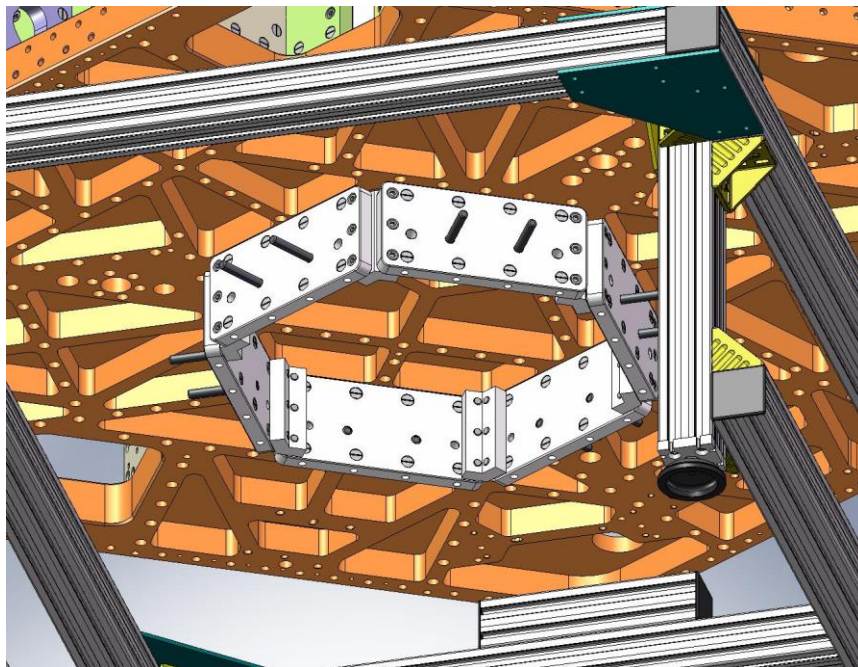

Figure 3.59. (24) Type 01 Barrel Nuts are placed in the holes lining the bottom of the Keel Walls.
- Place (24) **Type 01 Barrel Nuts** (D071250-01) into the holes lining the bottom of all (6) **Keel Walls**, as shown in Figure 3.59. The flats should face away from the screw holes.